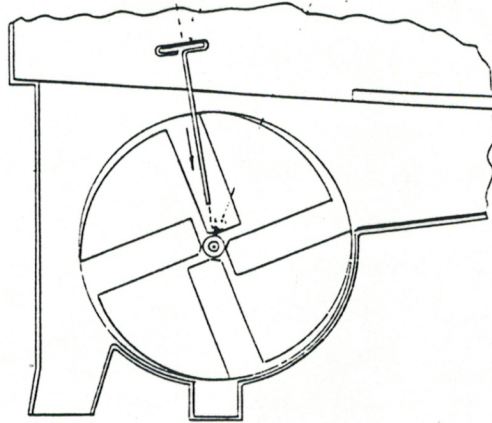

Figure 6 Schematic of set screw adjustment with hex wrench (side view)
5. With the hex wrench, loosen the set screw one-half ($1/2$) turn (see Figure 6).